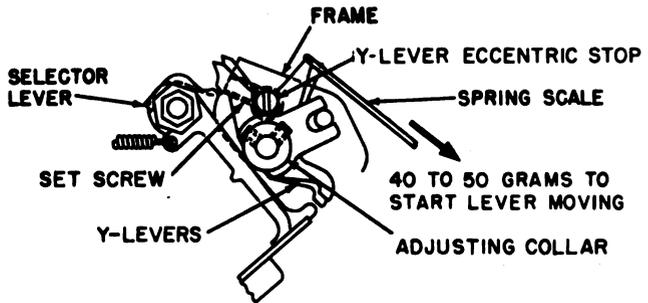

Figure 3-124. Y-lever function adjustment (TT-4A/TG and TT-698/TG).
(fig. 3-124)
a. Requirement. A force of 40 to 50 grams, applied with a spring scale at the point shown in figure 3-124, should be required to start each Y-lever moving from the counterclockwise to the clockwise position.